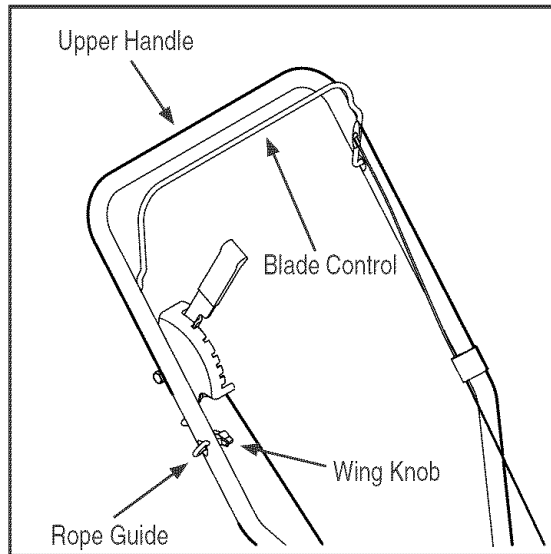

Figure 1
2. Loosen, but do NOT remove, the wing knob which secures the rope guide to the upper handle. See Figure 1.
**NOTE:** The starter rope will not pull out of the engine unless the blade control (refer to Figure 1) is depressed against the upper handle.